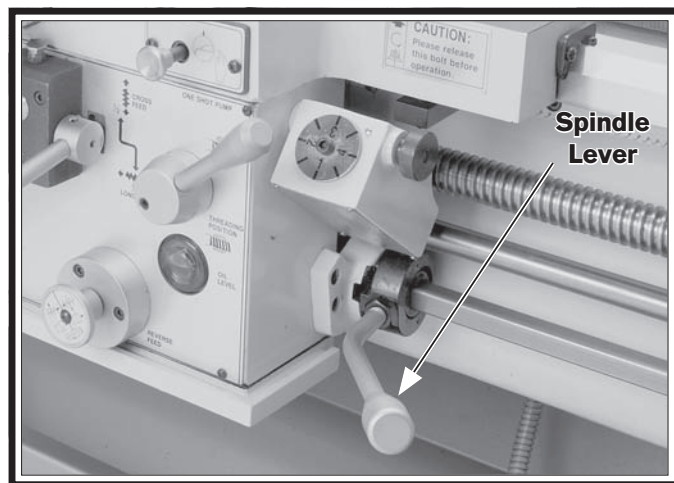

Figure 28. Spindle lever in down (forward) position.
11. Verify that the machine is operating correctly by pulling the spindle lever out and moving it down to start spindle rotation (see **Figure 28**).